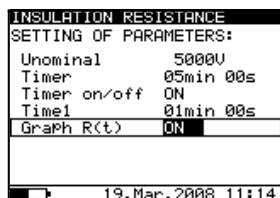

Fig. 12 Set-up menu in Insulation Resistance measurement
- Press the SELECT key, Set-up menu appears on display, see the **Fig. 12**.